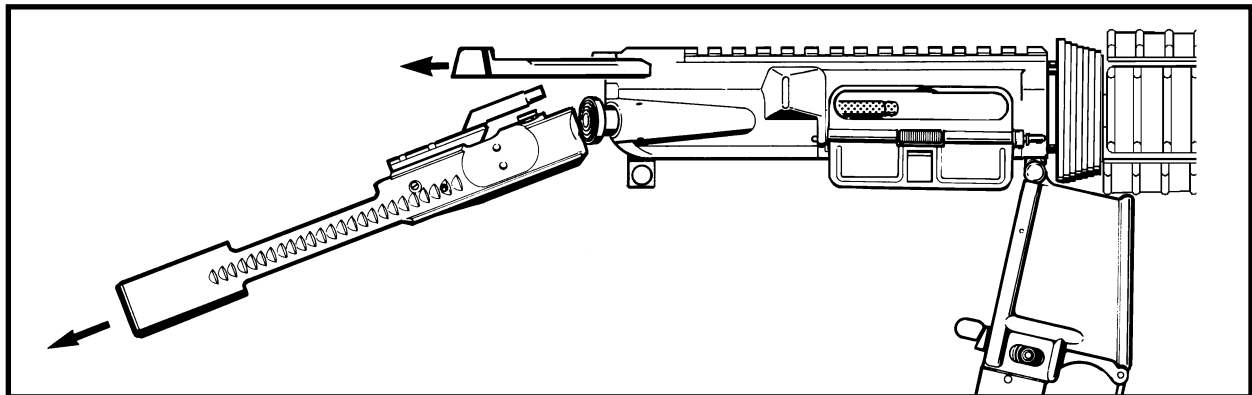

Figure 3-2-5 Removing the Bolt Carrier Group
- c. Pull the cocking handle rearward approximately 8 cm (3 in.) to withdraw the bolt carrier group. See Figure 3-2-5;